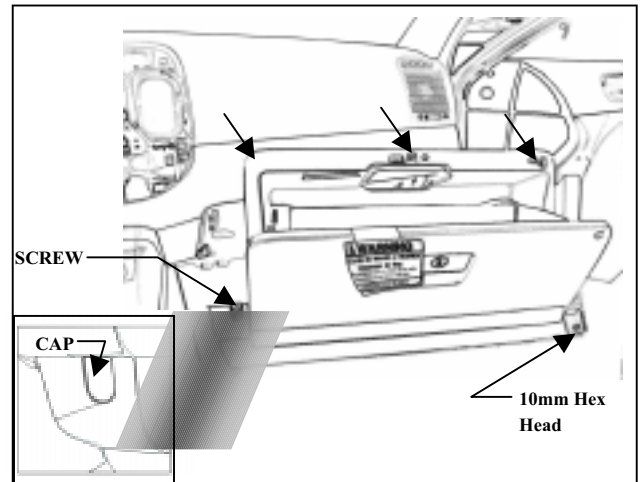

Figure C1
1. Remove the bolt on lower right side of glove box. (Figure C1).
2. Remove cap on lower left side of glove box using the small tip NRT to reveal Phillips screw and remove. (Figure C1 inset).
3. Remove 3 Phillips screws from top of glove box. (Figure C1).